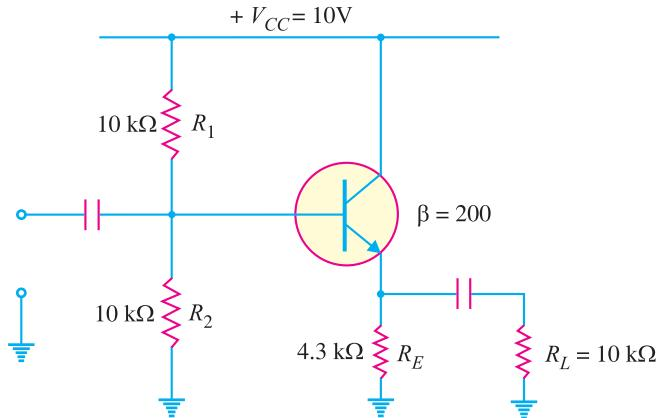

Fig. 13.21
**Example 13.22.** For the emitter follower circuit shown in Fig. 13.21, find the input impedance.